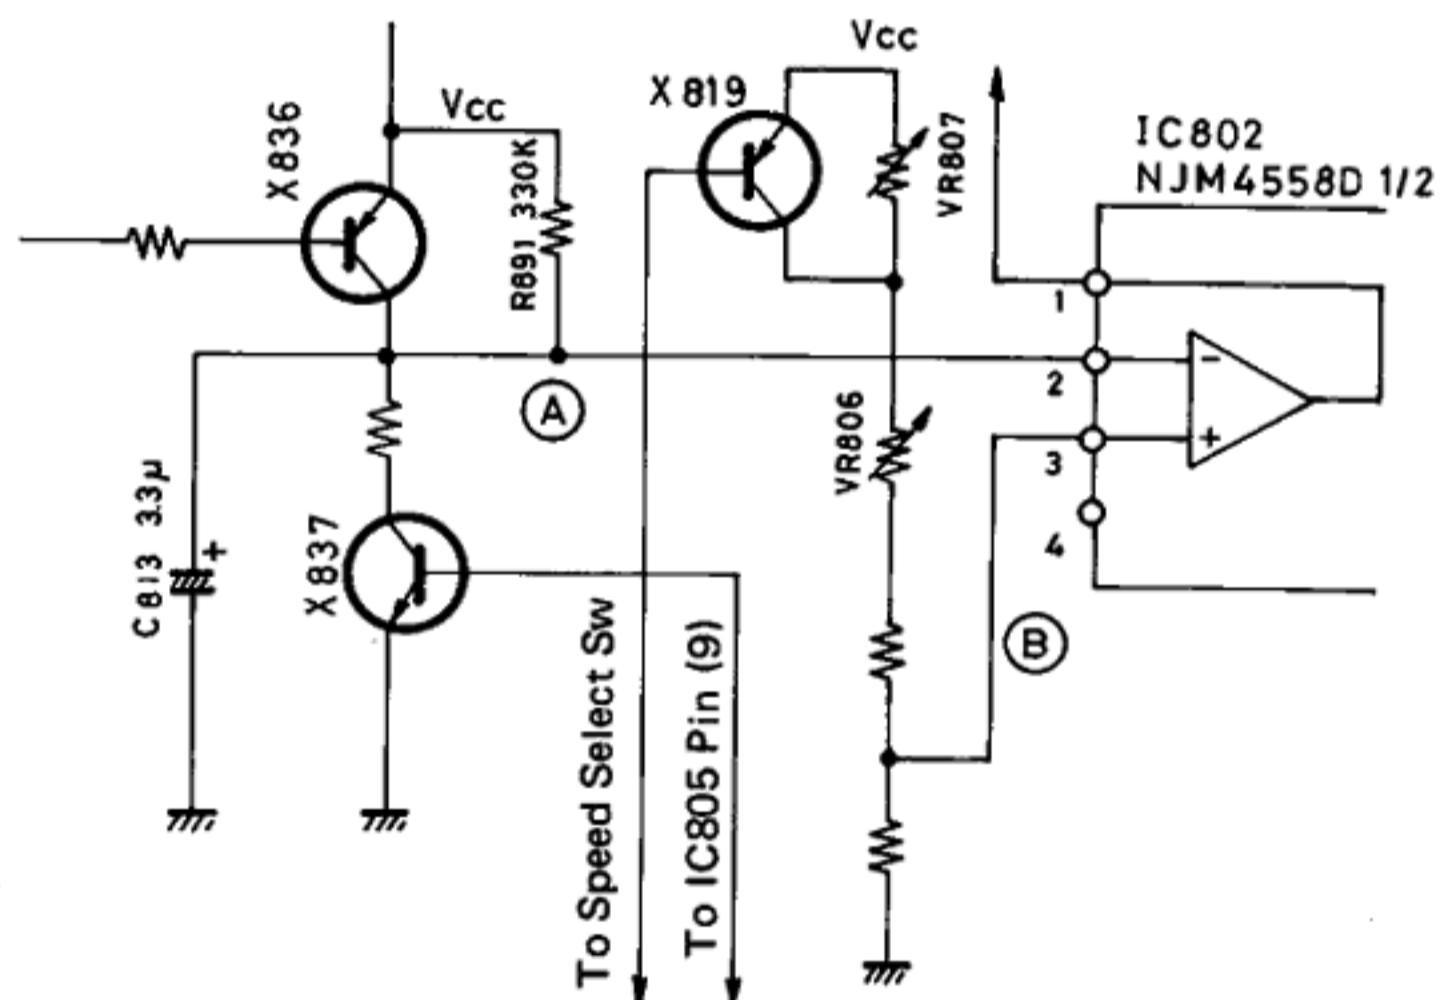

Fig. 12
On the other hand, when the base of X824 becomes "H" level, X823 is short circuited, thus causing pin (6) of IC802 to take "H" level. As a result, the pin (7) output becomes negative and produces a reverse torque. The reference voltage at (B) differs with the speed. Refer to Fig. 12.